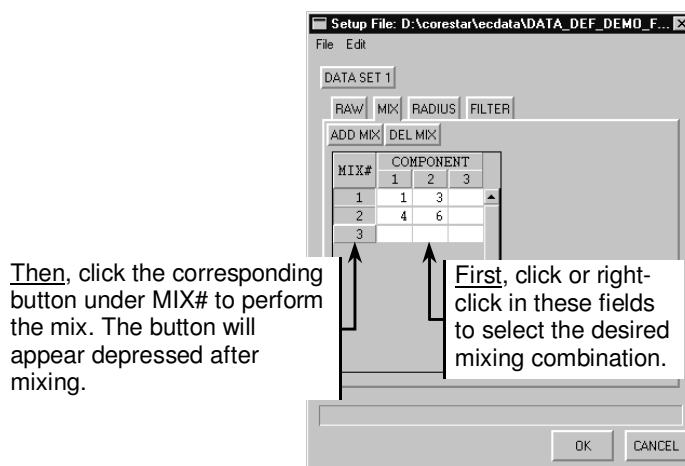

Figure 3-99. Setup Dialog - MIX Tab - Adding a Mix (Process) Channel
- Click the **ADD MIX** button and a new empty mix channel will appear at the bottom of the **MIX** dialog as shown in Figure 3-99;